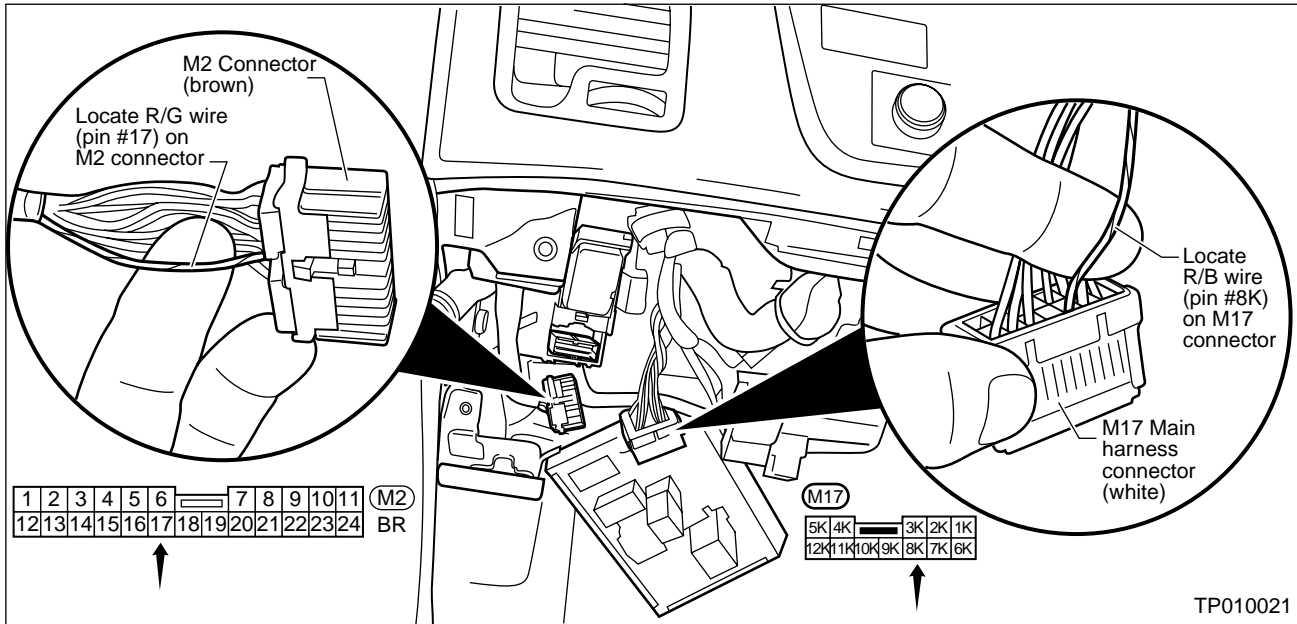

Figure 8
11. Locate the R/B wire (pin #8K) on the M17 main harness connector (white) which was disconnected in step 9 (see Figure 8).
12. Locate the R/G wire (pin #17) on the M2 connector (brown) which was disconnected in step 10 (see Figure 8).